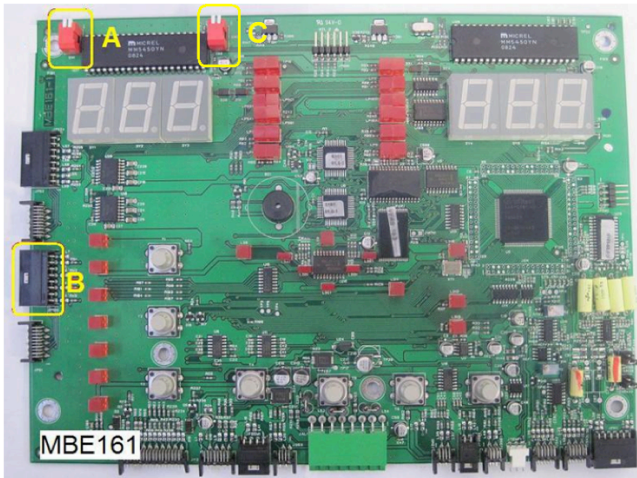

Fig. 1
- With the machine switched off set the dip-switch (C, figure 1) that is necessary for accessing the diagnostics mode, i.e.: